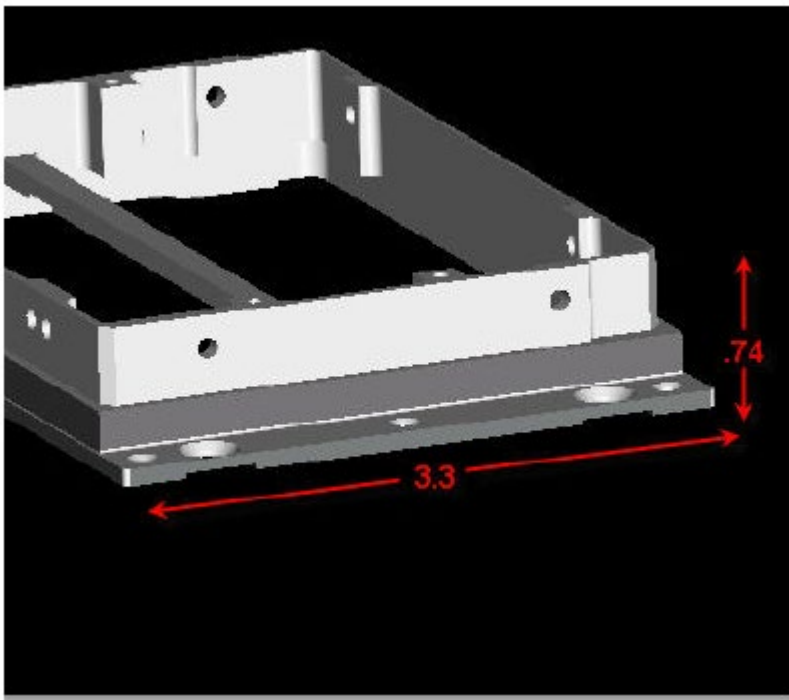

Figure 8 - Source: Pro CNC Inc.
- Design parts so they can be machined within the smallest stock material available. For example, Figure 8 shows a part 3.3" wide by .74" thick. This part can be made from 3-1/2" wide bar stock, but isn't thin enough to be made from 3/4" thick stock because it only leaves .01" of material to allow cleanup of the faces. Material 1" thick would have to be used to ensure complete face cleanup. The thicker raw stock costs 25% more and will take more machining time to remove excess stock. If the part could have been designed to a maximum thickness of .65" or less, then .75" thick raw stock could have been used. If smaller parts will be held by clamping in a vise while machining, .05" of excess material is about the minimum amount of excess material needed to fully cleanup the part.